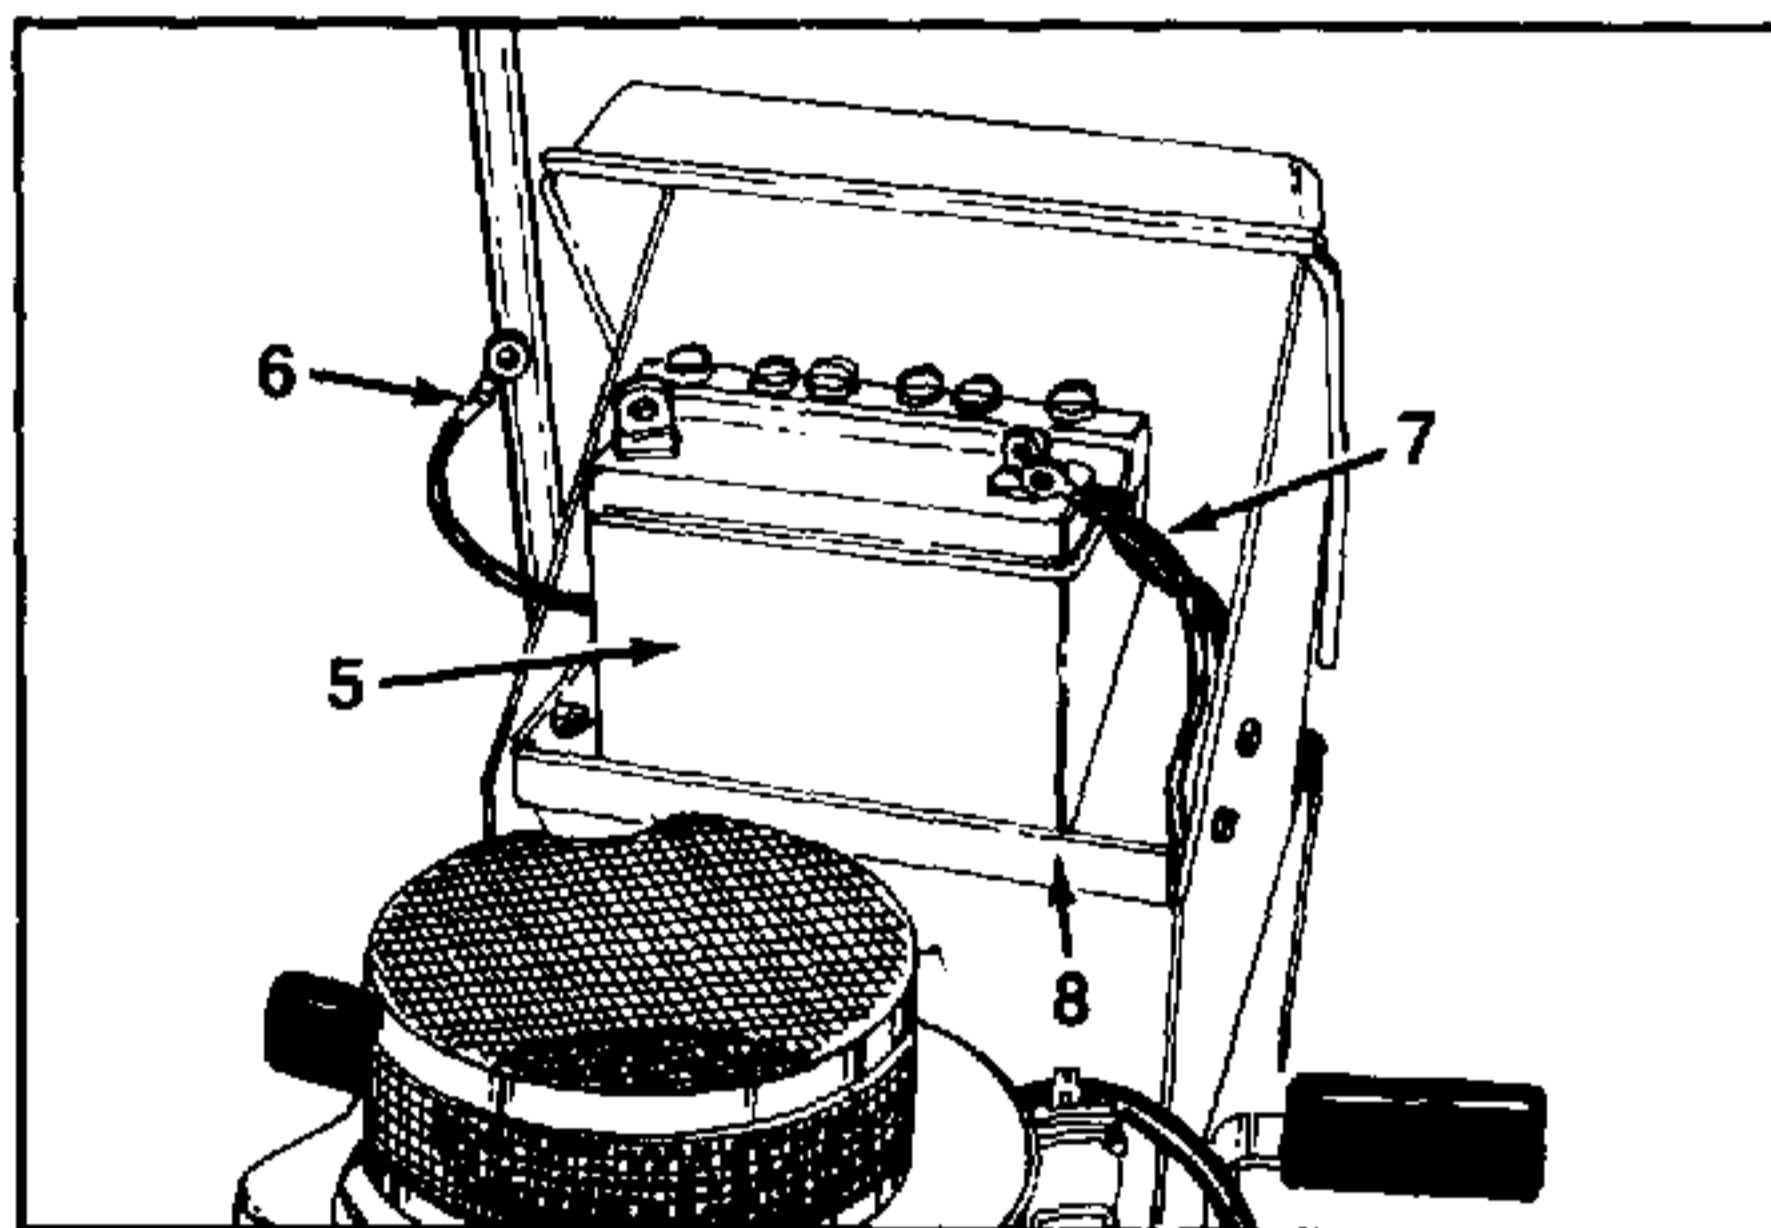

FIGURE 2.
2. Disconnect the battery cables **negative cable first** (Ref. 6 and 7) from battery post. See figure 2.
3. Lift out the battery (Ref. 5) from the battery tray (Ref. 8). See figures 2 and 3.